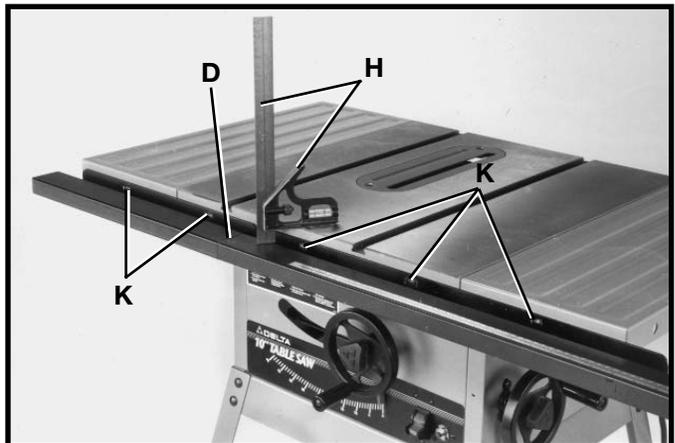

Fig. 25
4. Using a square (H) Fig. 25 set at 13/16", place the square on the saw table and against the top of guide rail (D). Align the guide rail until it is parallel to the saw table by loosening and tightening mounting hardware at five positions (K) Fig. 25.